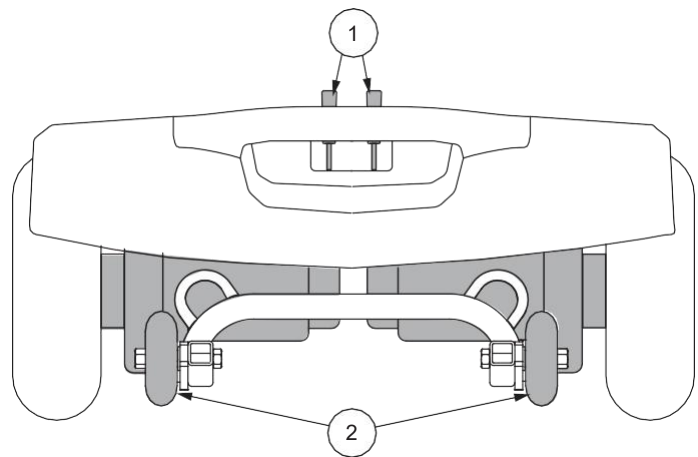

Figure 8. Rear Components
For your convenience, your travel scooter has a manual freewheel lever on the motor. Manual freewheel levers enable you to disable the drive system in order to maneuver the Travel Scooter manually. See figure 8.
1. Locate the levers on the rear section of the scooter. **See figure 8.**